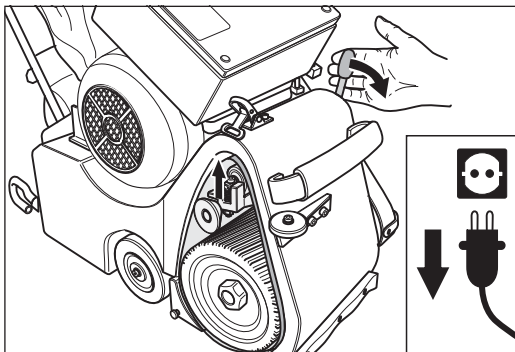

Fig. 40 Tension the sanding belt by lowering the operating lever. **Otherwise, damage or injury can occur!**
- 8 To tension the sanding belt, press the operating lever of the drive unit downwards (fig. 40). **Otherwise, damage or injury can occur!**
- **Always tension the sanding belt before switch on the machine (fig. 40)!**